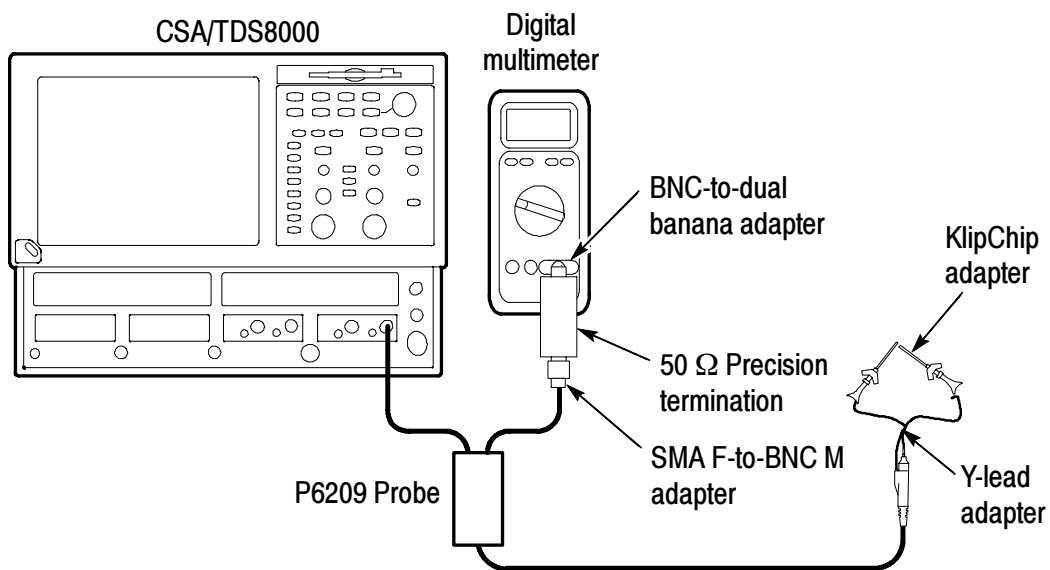

Figure 18: P6209 offset zero setup
8. Connect the equipment as shown in Figure 18.